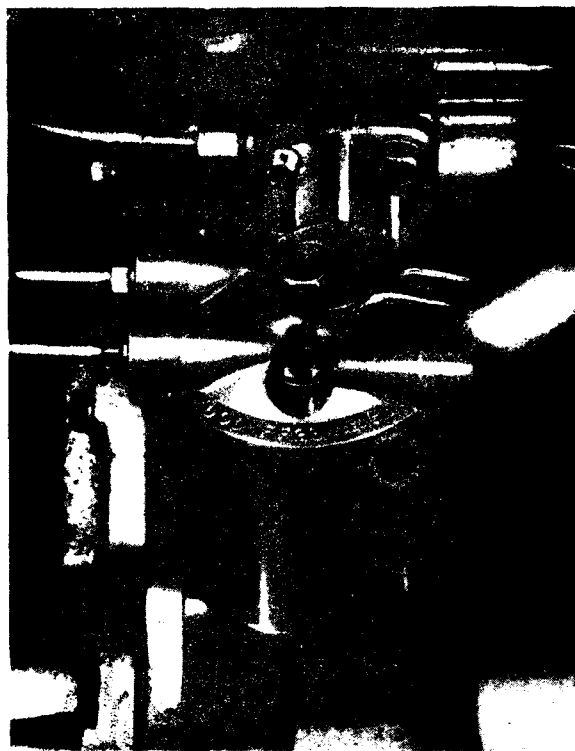

Fig. Q.2: Unscrewing Filter Bowl Securing Setscrew.
1. Remove filter bowl as shown in Figs. Q.2 and Q.3.